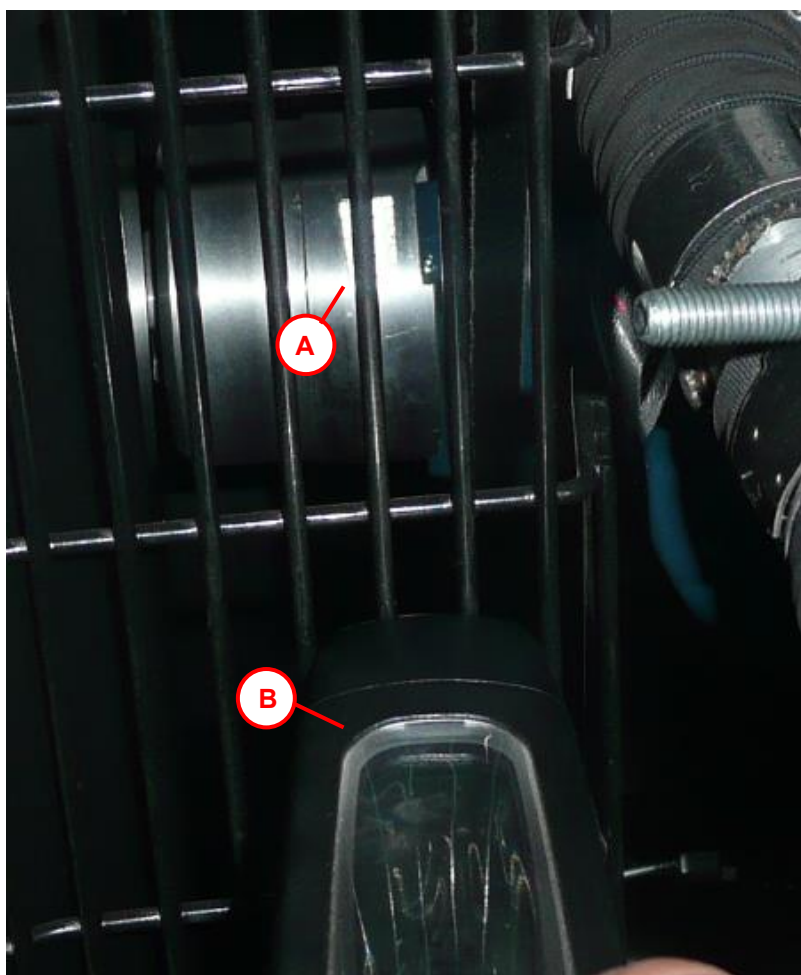

Figure 11.1.2 Reflective mark "A" on the harmonic balancer
- 8) Measure with an optical tachometer (Letter B in Figure 11.1.2) the RPM of the harmonic balancer, focusing the optical beam on the reflective indicator (Letter A in Figure 11.1.2)